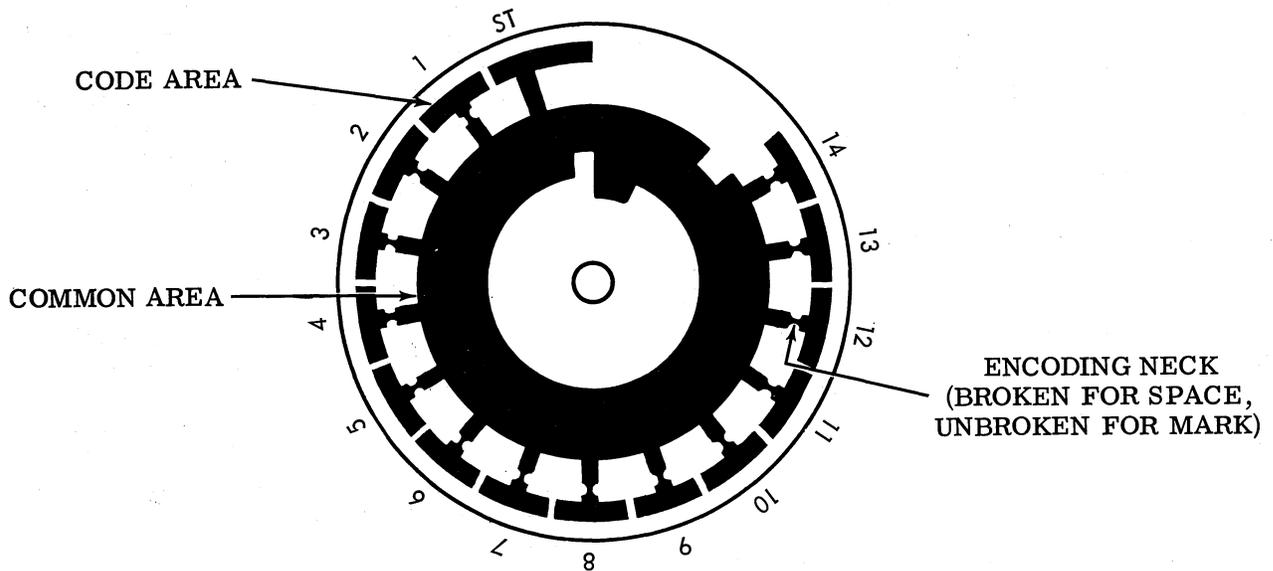

Figure 2 - TP199580 Code Disc
3.03 Prepare the TP199580 code disc by encoding bit numbers 1 through 14 (Figure 2). A marking bit (M) is present when the code area is connected to the common area. A spacing bit (S) is present when the code area is not connected to the common area. The code disc is manufactured with all bits marking, so continuity must be broken for selected bits to